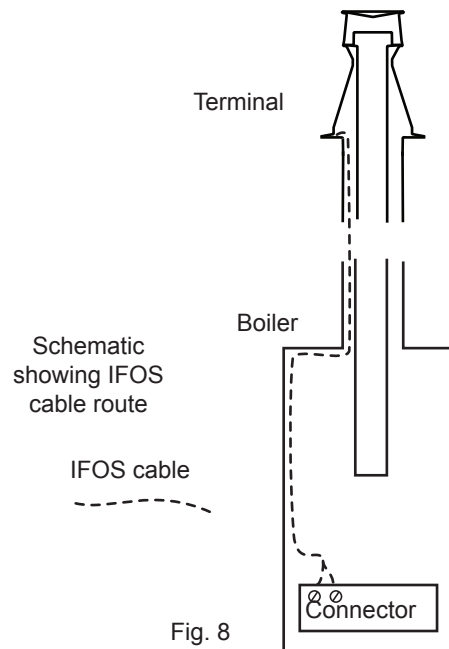

Fig. 8
15. Pass the loose end of the IFOS cable into the outer part of the boiler adaptor (Fig. 8).